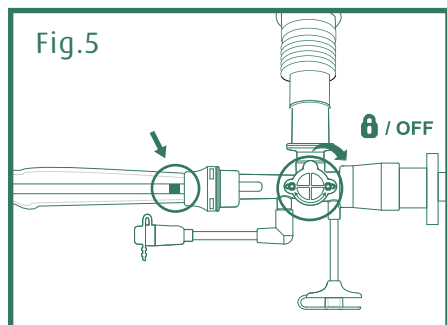
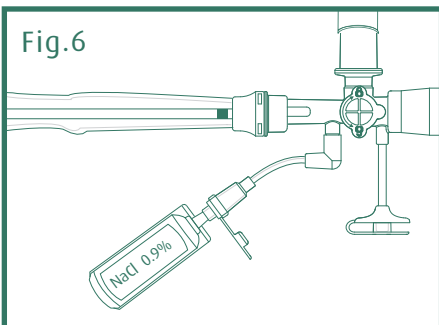

Fig.6
Fig.7
2. **(Fig. 6)** Open cap on irrigation port (J) .A prefilled saline vial or a 15ml syringe filled with saline is prepared to be used.
3. **(Fig. 6)** Attached saline vial/syringe to the irrigation port.
4. Depress the the cover of the vacuum control device (H) for saline to enter the irrigation chamber (A) . Continue to irrigate until the catheter is clear of secretion.
5. Close the cap of the irrigation port (J) .
6. **(Fig. 7)** Lock the cover of the vacuum control device (H) when not in use to prevent accidental depression.
7. Keep the isolation valve (N) in locked position.
8. Turn off the vacuum after use. If the suction catheter is disconnected in-line use, protective cap (I) on the end of vacuum control device (G) .